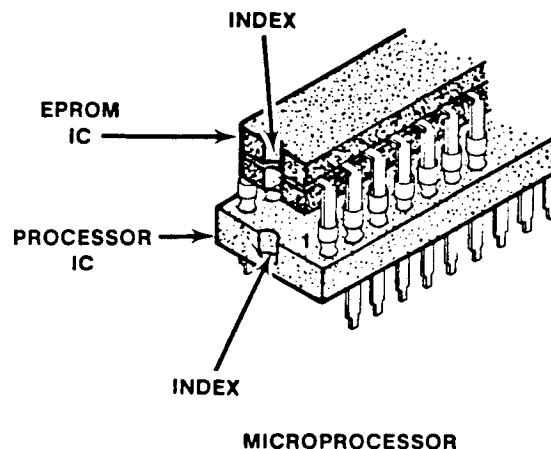

Figure 3. - EPROM indexing diagram.
- () 3. Install the new EPROM microcircuit into the socket, using the same tool used in step 2 in this section. Check that all the microcircuit pins are straight and evenly spaced to ensure proper installation. Refer to Figure 3, EPROM indexing diagram.